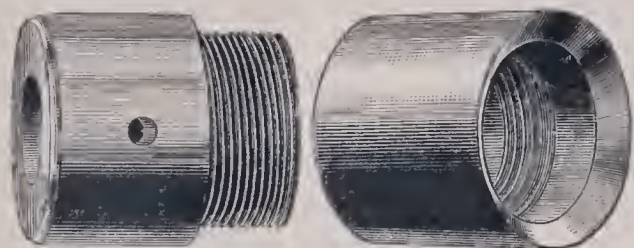

Fig. 6. Drive-Head and Shoe.
**DRIVING STAND-PIPE.** A good way of starting the pipe through soft clay is to drill a hole to any practicable depth, large enough to admit the stand-pipe, which is then lowered into it. Beyond this depth the pipe must be driven. A *Drive-Head and Shoe* (Fig. 6) are screwed to top and bottom of the pipe, the head receiving the blows of a heavy hard-wood or iron drive-block, the shoe cutting its way through the drift. The drive-block is raised by the engine and hoisting rope, and dropped from a suitable height, striking 25 to 50 blows in a minute. A wash-pipe is lowered inside the drive-pipe, following the shoe down and stirring up the loose material, which is carried to the surface by a stream of water forced down inside the wash-pipe. This stream will wash up sand and clay, and gravel up to about 1½ inches in diameter. Where coarser gravel or boulders are encountered, they must be chopped to pieces.